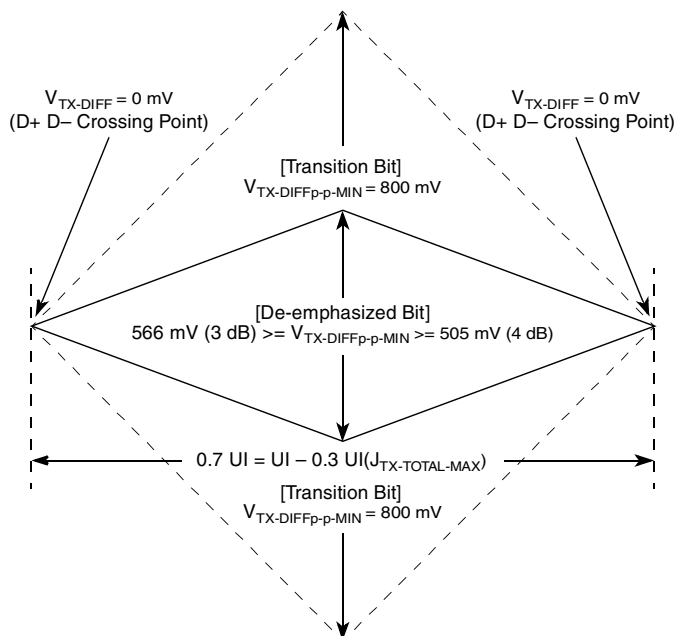
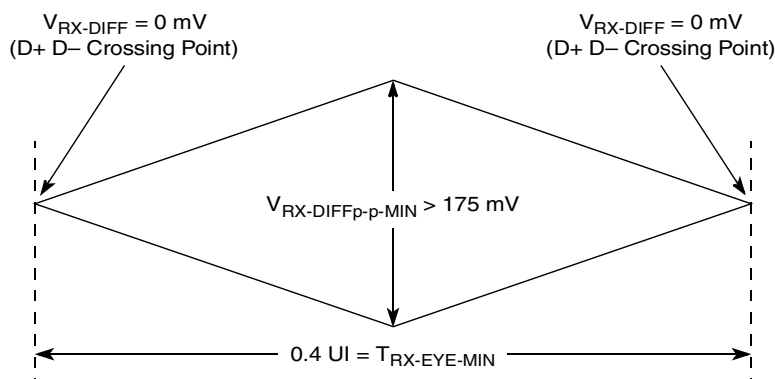
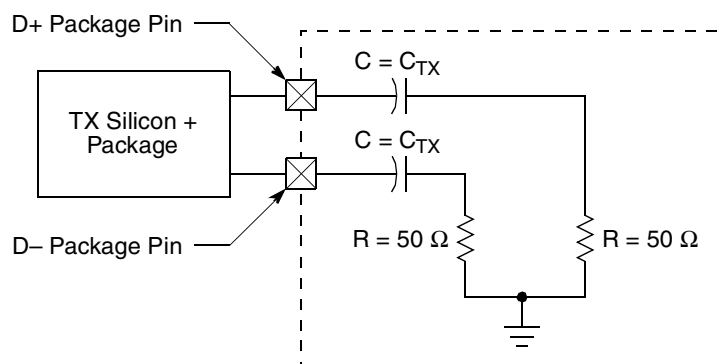

Figure 46. Minimum Transmitter Timing and Voltage Output Compliance Specifications
Figure 47. Minimum Receiver Eye Timing and Voltage Compliance Specification
Figure 48. Compliance Test/Measurement Load
2. Specified at the measurement point into a timing and voltage compliance test load as shown in Figure 48 and measured over any 250 consecutive Tx UIs. (Also refer to the transmitter compliance eye diagram shown in Figure 46.)
4. The transmitter input impedance will result in a differential return loss greater than or equal to 12 dB and a common mode return loss greater than or equal to 6 dB over a frequency range of 50 MHz to 1.25 GHz. This input impedance requirement applies to all valid input levels. The reference impedance for return loss measurements is 50 Ω to ground for both the D+ and D– line (that is, as measured by a vector network analyzer with 50- Ω probes, see Figure 48). Note that the series capacitors, C_{TX} , is optional for the return loss measurement.
5. Measured between 20%–80% at transmitter package pins into a test load as shown in Figure 48 for both V_{TX-D+} and V_{TX-D-} .
The Tx eye diagram in Figure 46 is specified using the passive compliance/test measurement load (see Figure 48) in place of any real PCI Express interconnect + Rx component. There are two eye diagrams that must be met for the transmitter. Both diagrams must be aligned in time using the jitter median to locate the center of the eye diagram. The different eye diagrams differ in voltage depending on whether it is a transition bit or a de-emphasized bit. The exact reduced voltage level of the de-emphasized bit is always relative to the transition bit.
2. Specified at the measurement point and measured over any 250 consecutive UIs. The test load in Figure 48 should be used as the Rx device when taking measurements (also refer to the receiver compliance eye diagram shown in Figure 47). If the clocks to the Rx and Tx are not derived from the same reference clock, the Tx UI recovered from 3500 consecutive UI must be used as a reference for the eye diagram.
4. The receiver input impedance will result in a differential return loss greater than or equal to 10 dB with the D+ line biased to 300 mV and the D– line biased to –300 mV and a common mode return loss greater than or equal to 6 dB (no bias required) over a frequency range of 50 MHz to 1.25 GHz. This input impedance requirement applies to all valid input levels. The reference impedance for return loss measurements for is 50 Ω to ground for both the D+ and D– line (that is, as measured by a vector network analyzer with 50- Ω probes, see Figure 48). Note that the series capacitors, C_{TX} , is optional for the return loss measurement.
The Rx eye diagram in Figure 47 is specified using the passive compliance/test measurement load (see Figure 48) in place of any real PCI Express Rx component. In general, the minimum receiver eye diagram measured with the compliance/test measurement load (see Figure 48) is larger than the minimum receiver eye diagram measured over a range of systems at the input receiver of any real PCI Express component. The degraded eye diagram at the input receiver is due to traces internal to the package as well as silicon parasitic characteristics that cause the real PCI Express component to vary in impedance from the
compliance/test measurement load. The input receiver eye diagram is implementation specific and is not specified. Rx component designer should provide additional margin to adequately compensate for the degraded minimum receiver eye diagram (shown in Figure 47) expected at the input receiver based on an adequate combination of system simulations and the return loss measured looking into the Rx package and silicon. The Rx eye diagram must be aligned in time using the jitter median to locate the center of the eye diagram.
The reference impedance for return loss measurements is 50 Ω to ground for both the D+ and D– line (that is, as measured by a Vector Network Analyzer with 50 Ω probes—see Figure 48). Note that the series capacitors, $C_{PEACCTX}$, are optional for the return loss measurement.
The AC timing and voltage parameters must be verified at the measurement point, as specified within 0.2 inches of the package pins, into a test/measurement load shown in Figure 48.